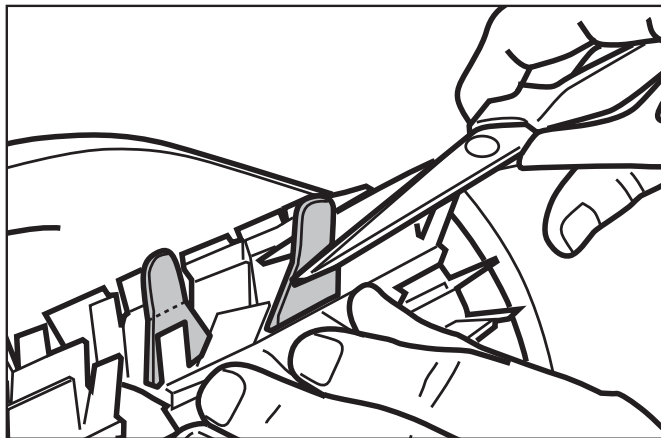

Figure 23. Cut Tabs
4. Use scissors to cut the tabs so they are no higher than the spikes (Figure 23).